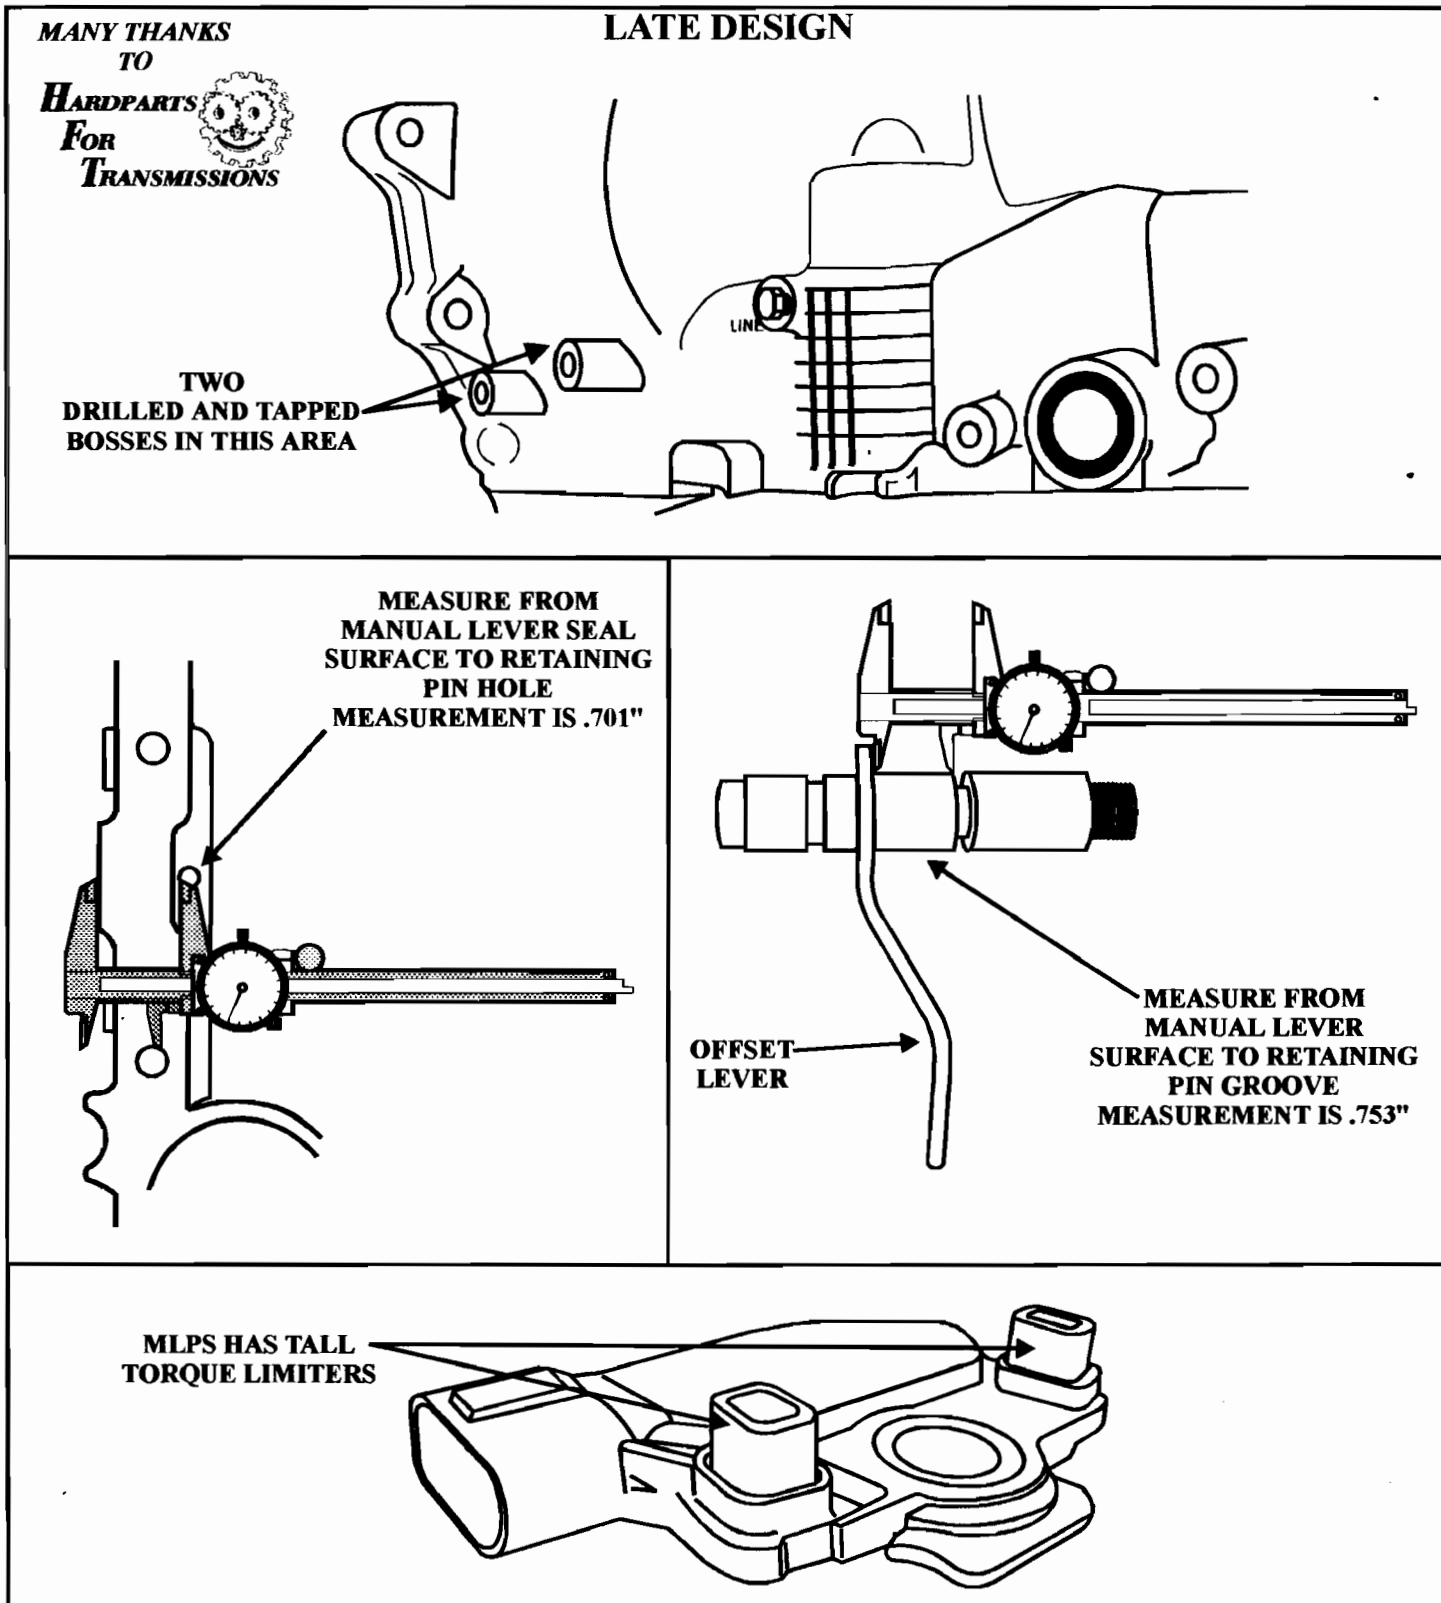

Figure 2
- (1) The case has ***TWO drilled and tapped bosses*** in the bell housing area on the manual shift linkage side of the case, as shown in figure 2.
- (2) Measure the distance of the pan rail from the manual lever seal surface to the retaining pin hole also shown in figure 2, the measurement is .701".
- (3) Measure the manual lever shaft from the lever to the retaining pin groove also shown in figure 2, the measurement is .753". The late manual shift lever is ***OFFSET***.
- (4) The Manual Lever Position Sensor that belongs with the late design has ***TALL*** torque limiters also shown in figure 2.